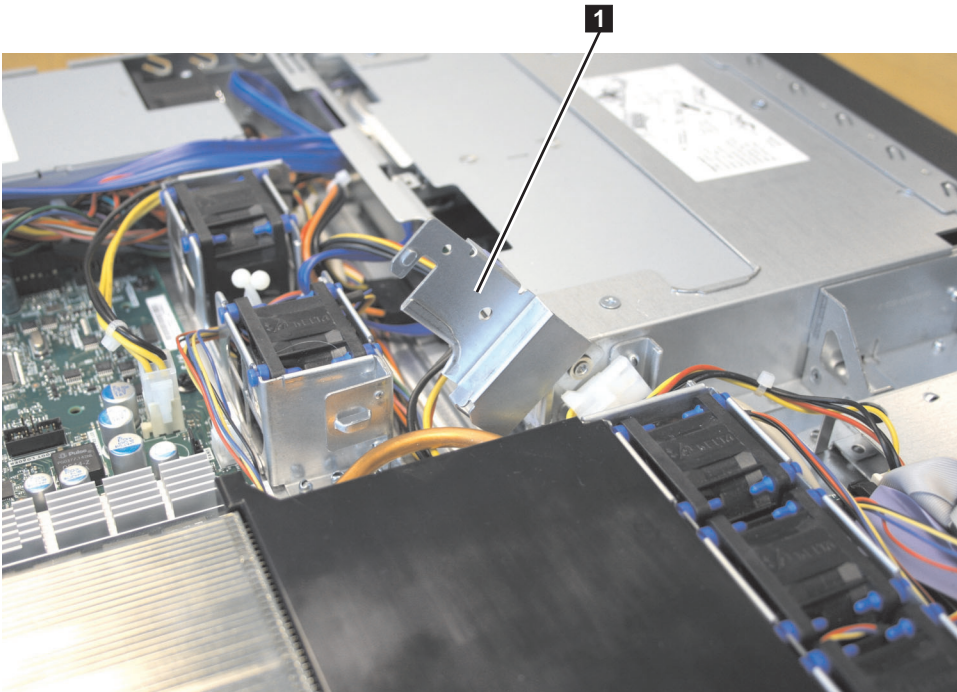

Figure 117. Air deflector for the SAN Volume Controller 2145-8A4 power supply
9. Rotate (lift) the air deflector **1** out of the way, as shown in Figure 117.